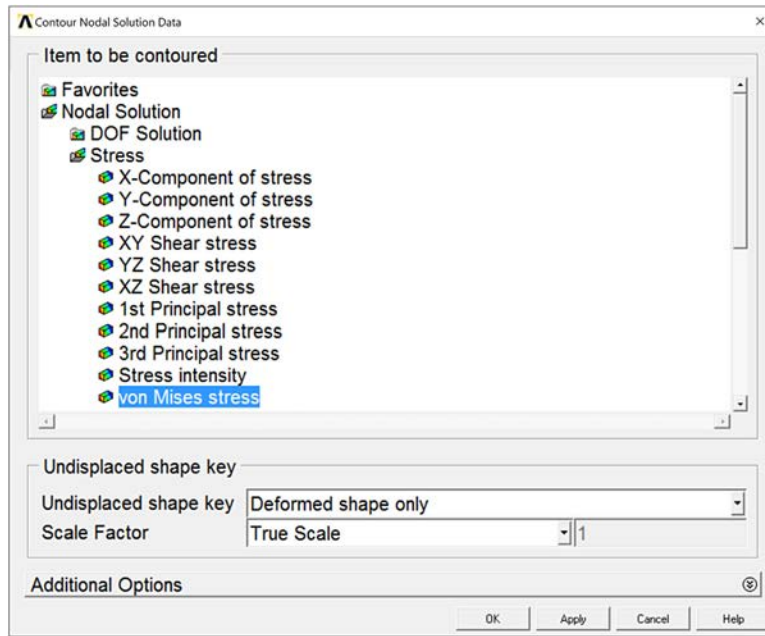

Figure 2-1-16 Contour Plot Menu.
- Choose "Stress" (Figure 2-1-16)